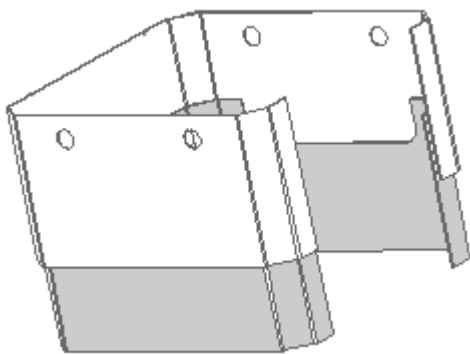

FIGURE 25: LEG COVERS
2. Place the smaller 'sleeve', with cutouts facing up, inside the larger sleeve with the openings of both stacked and facing the back (*Figure 25*).
1. Remove the leg covers by sliding the top, outer sleeve of the leg covers off the extruded dimples of the cast aluminum base (see *Figure 25*).
5. Mount the Toe Kick Panel on both sides of the unit into the extruded dimples using the (4) T-20 Torx drill point screws provided.